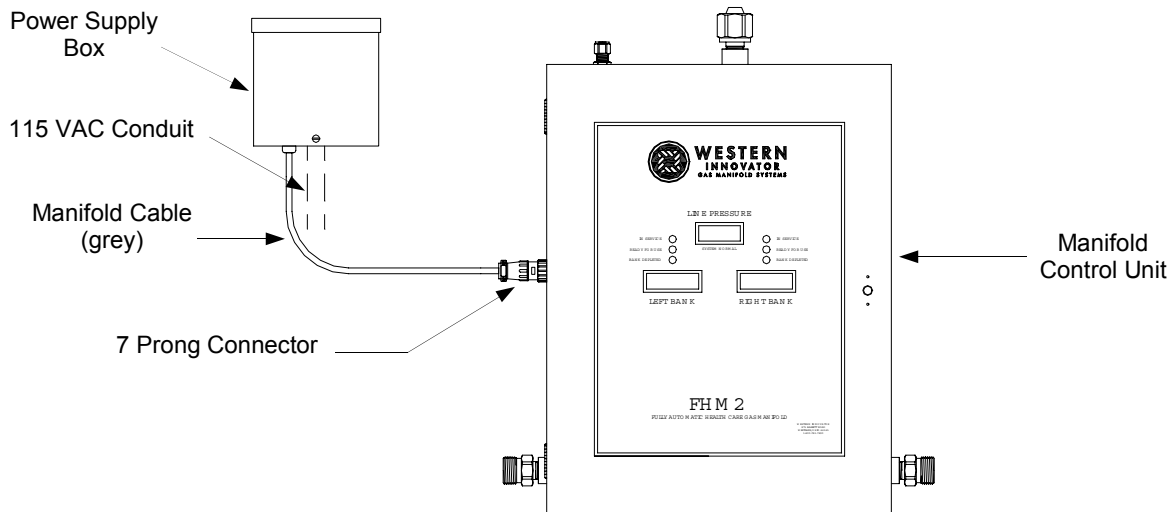

Figure 8
1. A 24 VAC power supply transformer is furnished with the manifold control unit. Mount the box onto the wall, to the left of the manifold, with the top edge approximately aligned with top of the control unit. The attached control cable terminates into a 7 prong plug matching a receptacle on the left side of the control unit, (Figure 8).